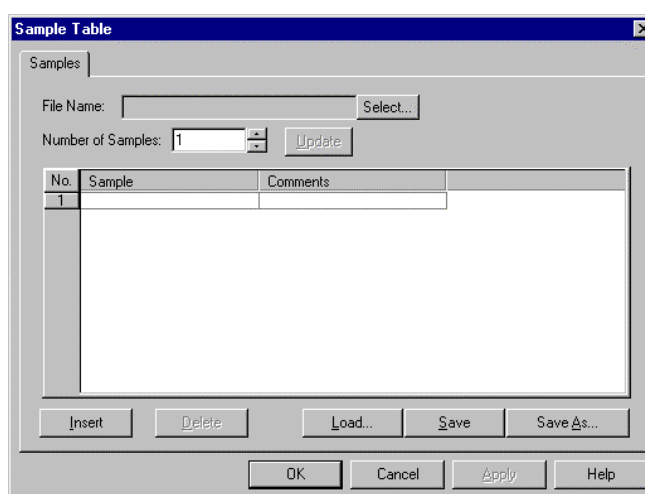

Fig. 4-19 Sample Table Window
- (1) Open the monitor window and select the Sample table command in the Edit menu or click the  button.
- (2) When the Sample Table window in Fig. 4-19 appears, fill in the blank section. For instance, if there are five samples, click the **Insert** button five times. Or enter “5” for Number of Samples and click the **Update** button.